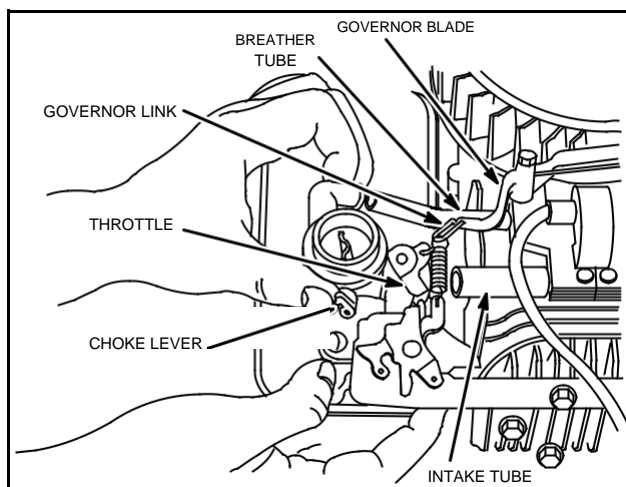

Fig. 170 - INSTALL CARBURETOR AND TANK ASSEMBLY
4. Hold choke lever as shown in Fig. 170, so it does not catch on control plate.